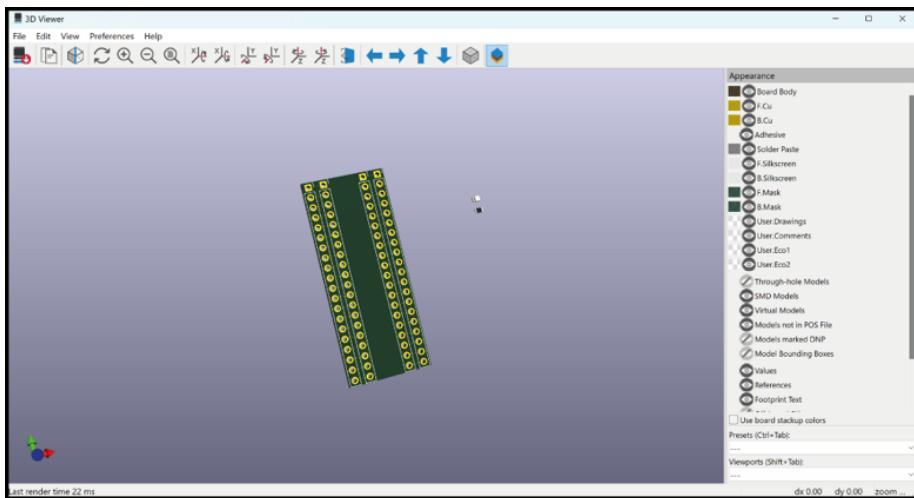

Figure 2-8: A first glimpse of the rendered PCB board
Once you have positioned the board edge rectangle correctly, you can get a first glimpse of the board in the 3D Viewer. To view the PCB, click View > 3D Viewer. You'll see the board, but you'll notice that all the 3D models of the header sockets are all placed into the rows of holes. In reality, you would only want headers on the outer rows installed on the back of the board, with the inner rows left unpopulated, or possibly populated with header pins. You could edit the board and the component footprints to reflect this, but for this simple example, you can click the Toggle 3D Models for Through Hole type Components (T) icon to turn off the models (Figure 2-8). In future chapters, we'll explore not only using correct 3D models but will look at how you can add custom 3D models too.